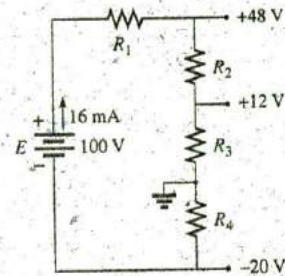

FIG. 5.122
- *39. Determine the values of R_1, R_2, R_3 , and R_4 for the voltage divider of Fig. 5.122 if the source current is 16 mA.